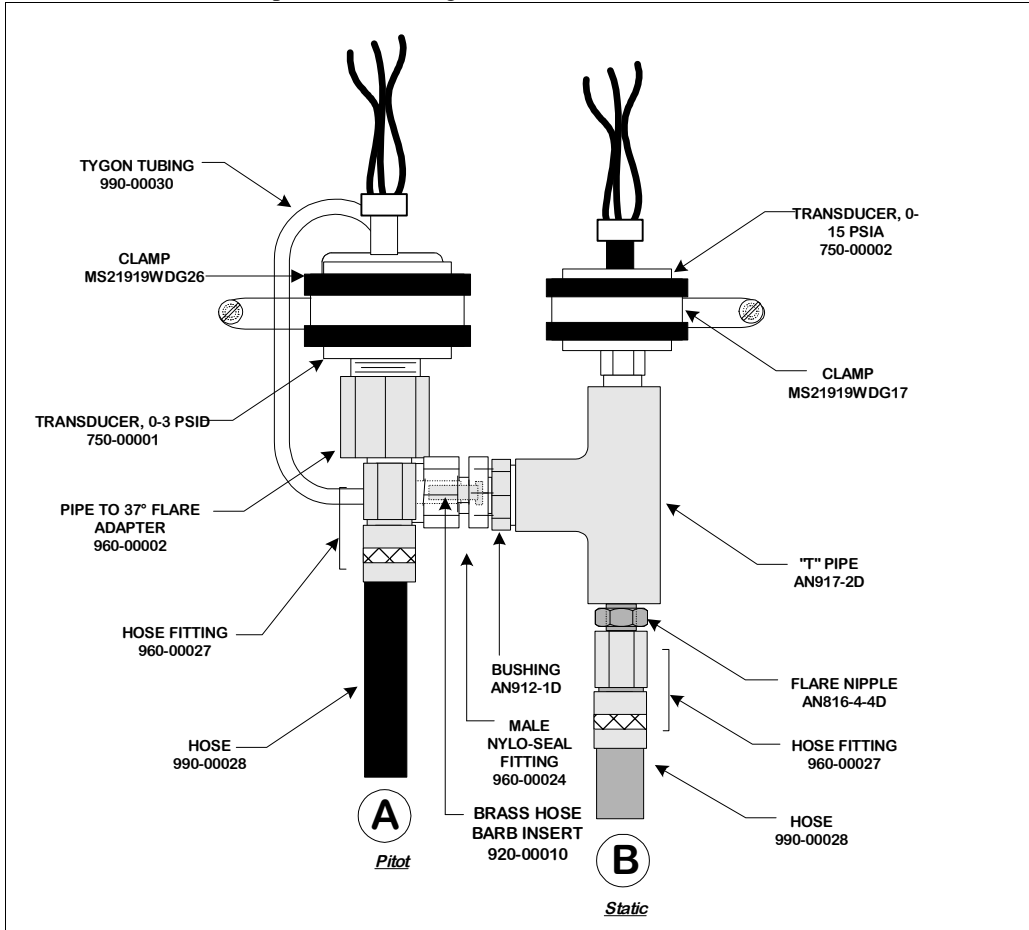

Figure C- 9: Pitot/Static Transducer Mounting
- 010 Apply Teflon® tape to the male ¼" transducer threads (750-00001 and 750-00002) and pre-assemble pipe fittings and Tygon tube and brass hose insert (920-00010) illustrated in Figure C- 9, above. The pitot and static port pressure hoses will be attached later when they are made up to length.